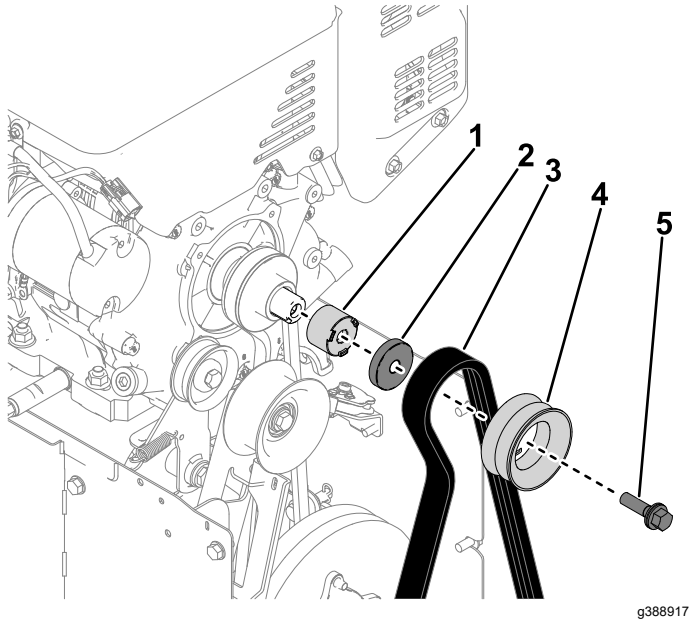

Figure 7
2. Remove the blade bolt (7/16 x 1–3/4 inch) securing the impeller pulley to the crankshaft. Remove the pulley, auger belt, pulley support, and spacer pulley from the crankshaft (Figure 7).